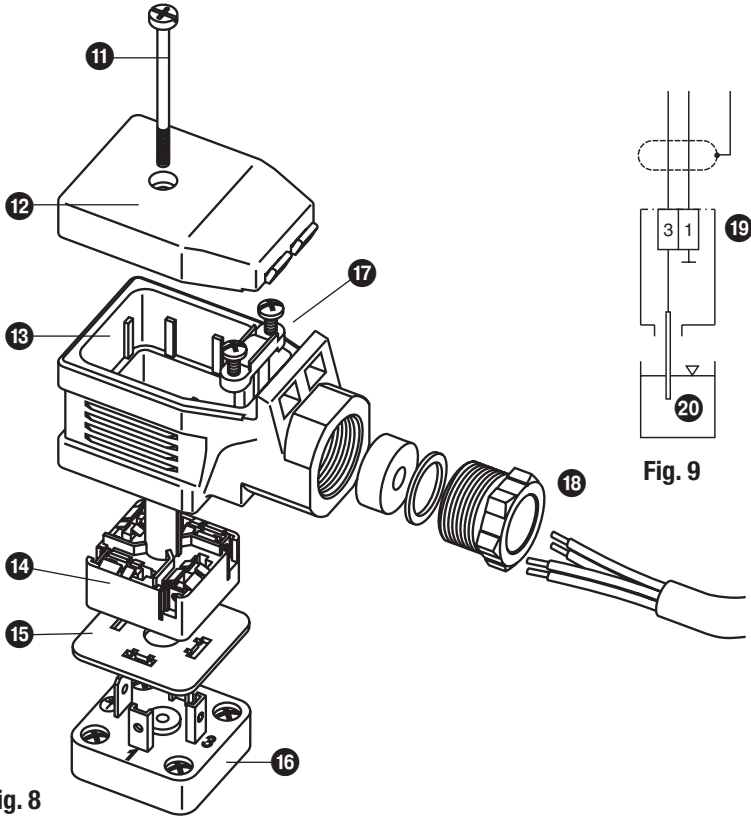

Fig. 8
1. Loosen screws ⑪. Fig. 8
2. Remove upper part ⑬ of the terminal box from the level electrode but leave insulating plate ⑮ on contact plate ⑯.
3. Remove cover ⑫.
4. Press connecting plate ⑭ out of the upper part of the terminal box ⑬.
1. Loosen screws **11**. Fig. 8
1. Loosen screw **11**. Fig. 8